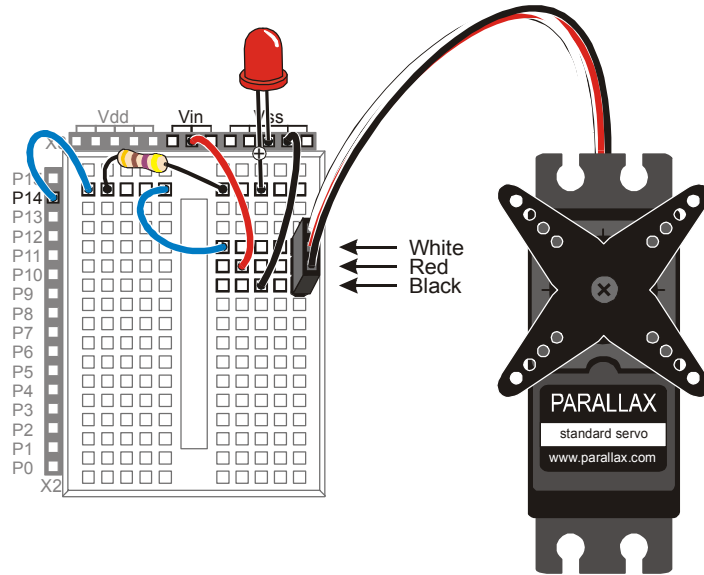

Figure 4-11
- √ Connect the servo to the servo header as shown in Figure 4-11.